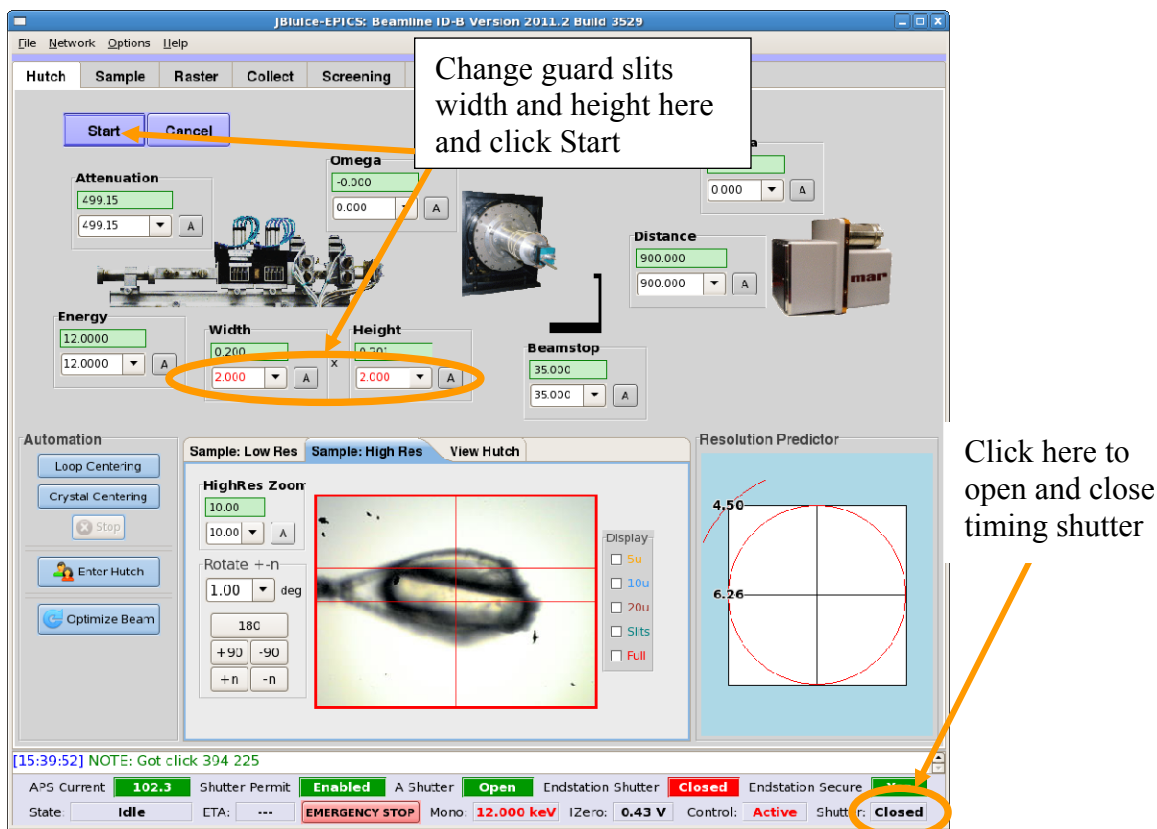
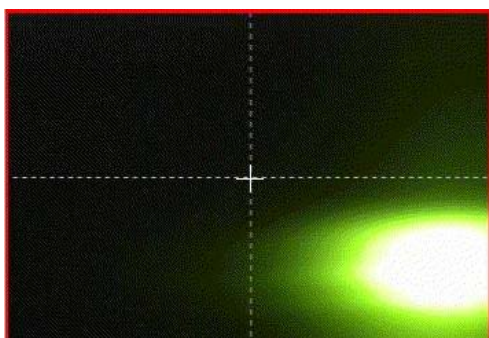

Figure 5 BluIce interface.
Figure 6 Beam, not centered, as seen on the YAG crystal.
9. Open Guard Slits to 2 mm × 2 mm (Fig. 5)
10. Open the timing shutter (Fig. 5). You should see the beam, perhaps not centered, on the YAG crystal (Fig. 6). If the beam cannot be seen,
5. Open the Endstation (D or B) shutter and the timing (or fast) shutter in BluIce (Fig. 5, page 9) and record the reading on the Io diode. If diode reading is greater than 10, reduce the Keithley gain. If reading is less than 0.5, increase the gain.